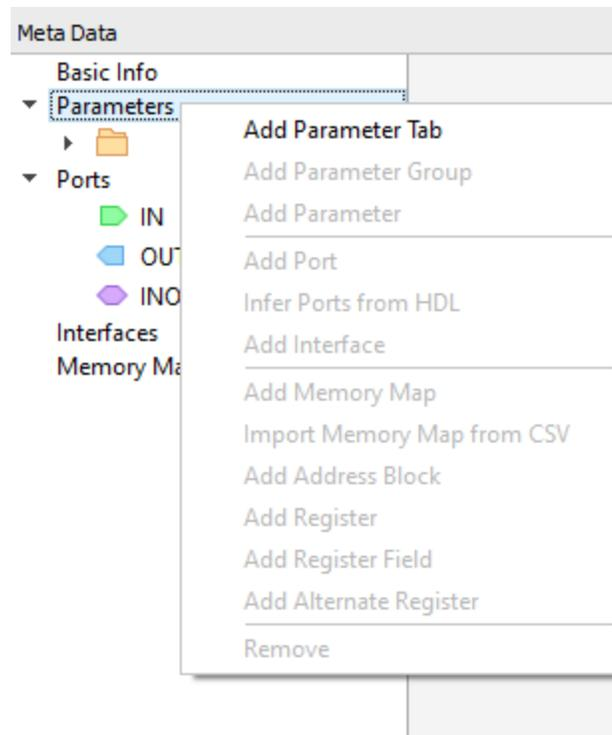

Figure 3.10. Right-click Menu of Parameters in the Meta Data View
- Right-click **Parameters** from Meta Data view, and choose **Add Parameter Tab** (Figure 3.10). Parameters create Tab1 items.